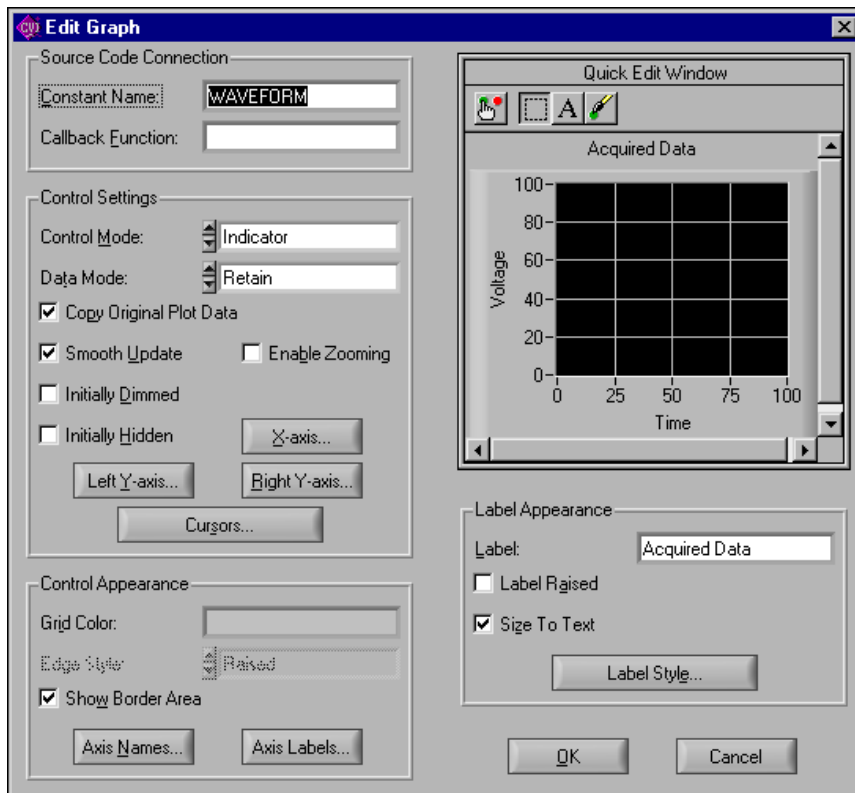

Figure 5-3. Edit Graph Dialog Box
5. Type **Acquired Data** in the **Label** control. Confirm that the dialog box looks exactly as shown in Figure 5-3.